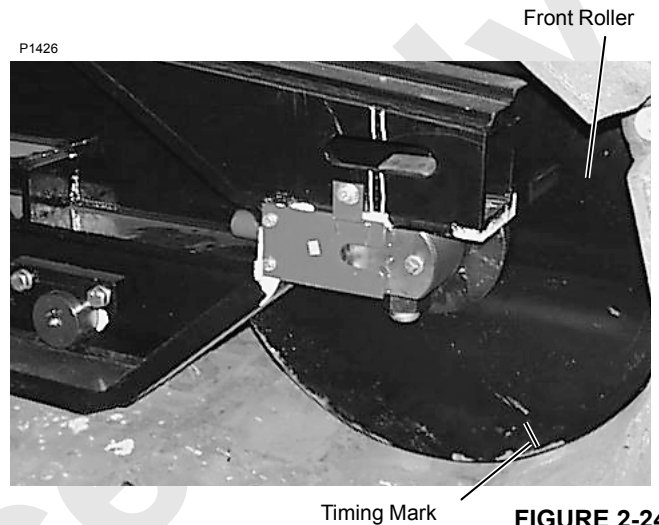

FIGURE 2-24
1. Put a timing mark on either front roller (Figure 2-24).